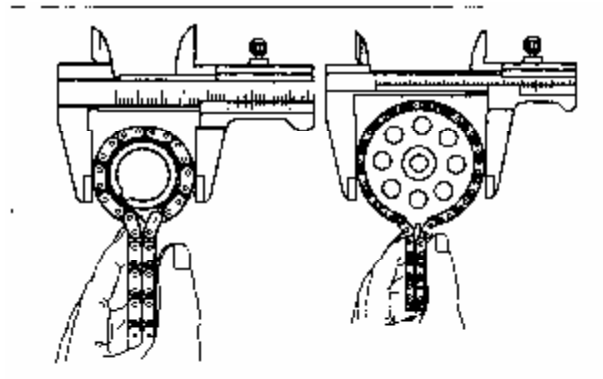

Figure 3-41 Measure Diameters of Crankshaft Timing Sprocket and Camshaft Timing Sprocket (with Chain)
3.4.6 Using a caliper (Figure 3-41) to measure diameters of crankshaft timing sprocket and camshaft timing sprocket (with chain). Minimum diameters are: